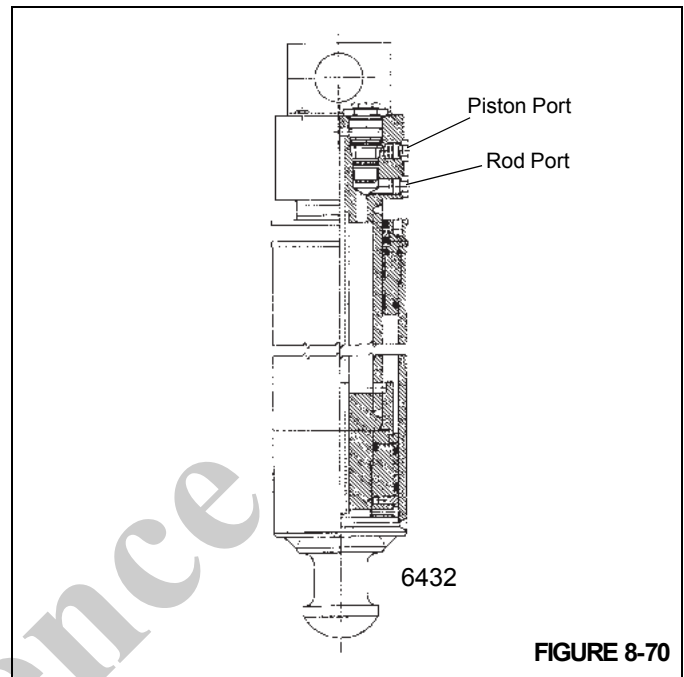

FIGURE 8-70
2. Remove the rod side cylinder hose from the suspected leaking jack cylinder (see Figure 8-70). Oil will flow until the cavity in the cylinder port block empties. Once the port block cavity empties, oil should stop flowing from the rod side port.
2. Remove the piston side cylinder hose from the suspected leaking jack cylinder (see Figure 8-70). Oil will flow until the cavity in the cylinder port block empties. Once the port block cavity empties, oil should stop flowing from the piston side port.